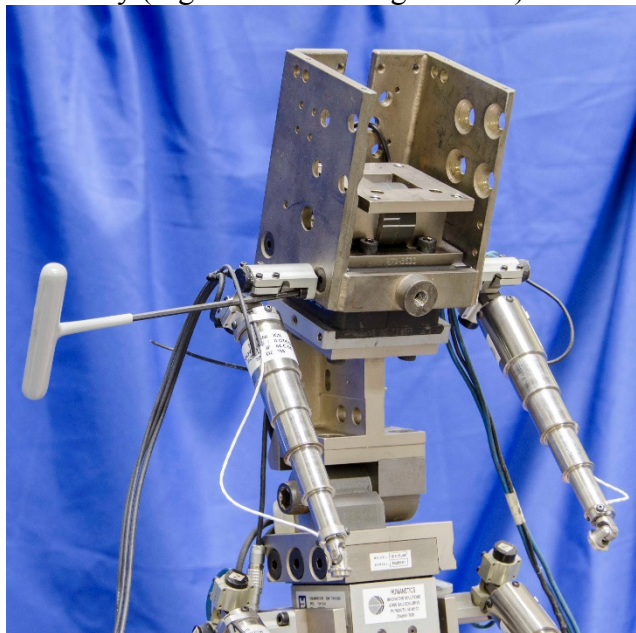
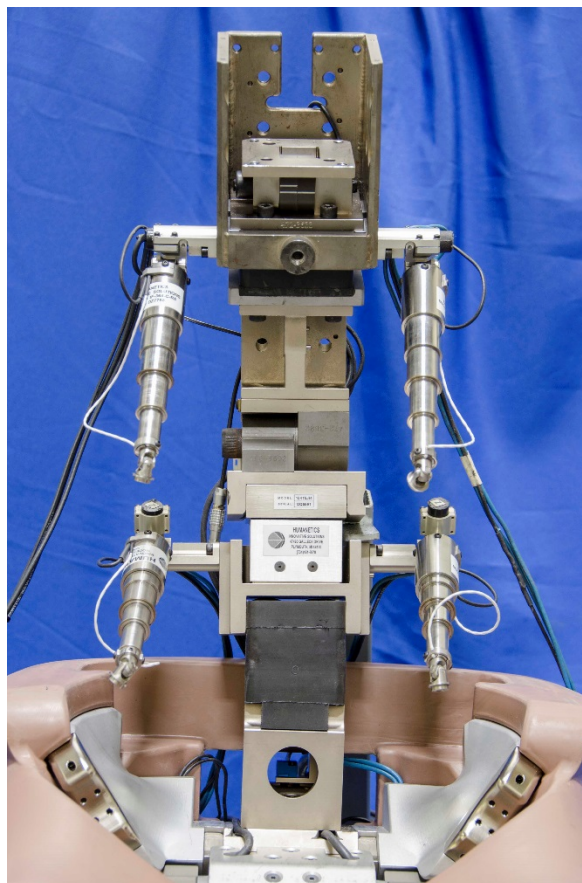

Figure 6-22. Attach upper thoracic IR-TRACCs to upper thoracic spine
Figure 6-23. Upper and lower thoracic IR-TRACCs installed
6.2.2.17 To attach each of the Upper Thoracic IR-TRACC Assemblies to the Upper Thoracic Spine Mechanical Assembly (472-3610) use two M4 X 0.7 X 10 mm SHCS per assembly (Figure 6-22 and Figure 6-23).